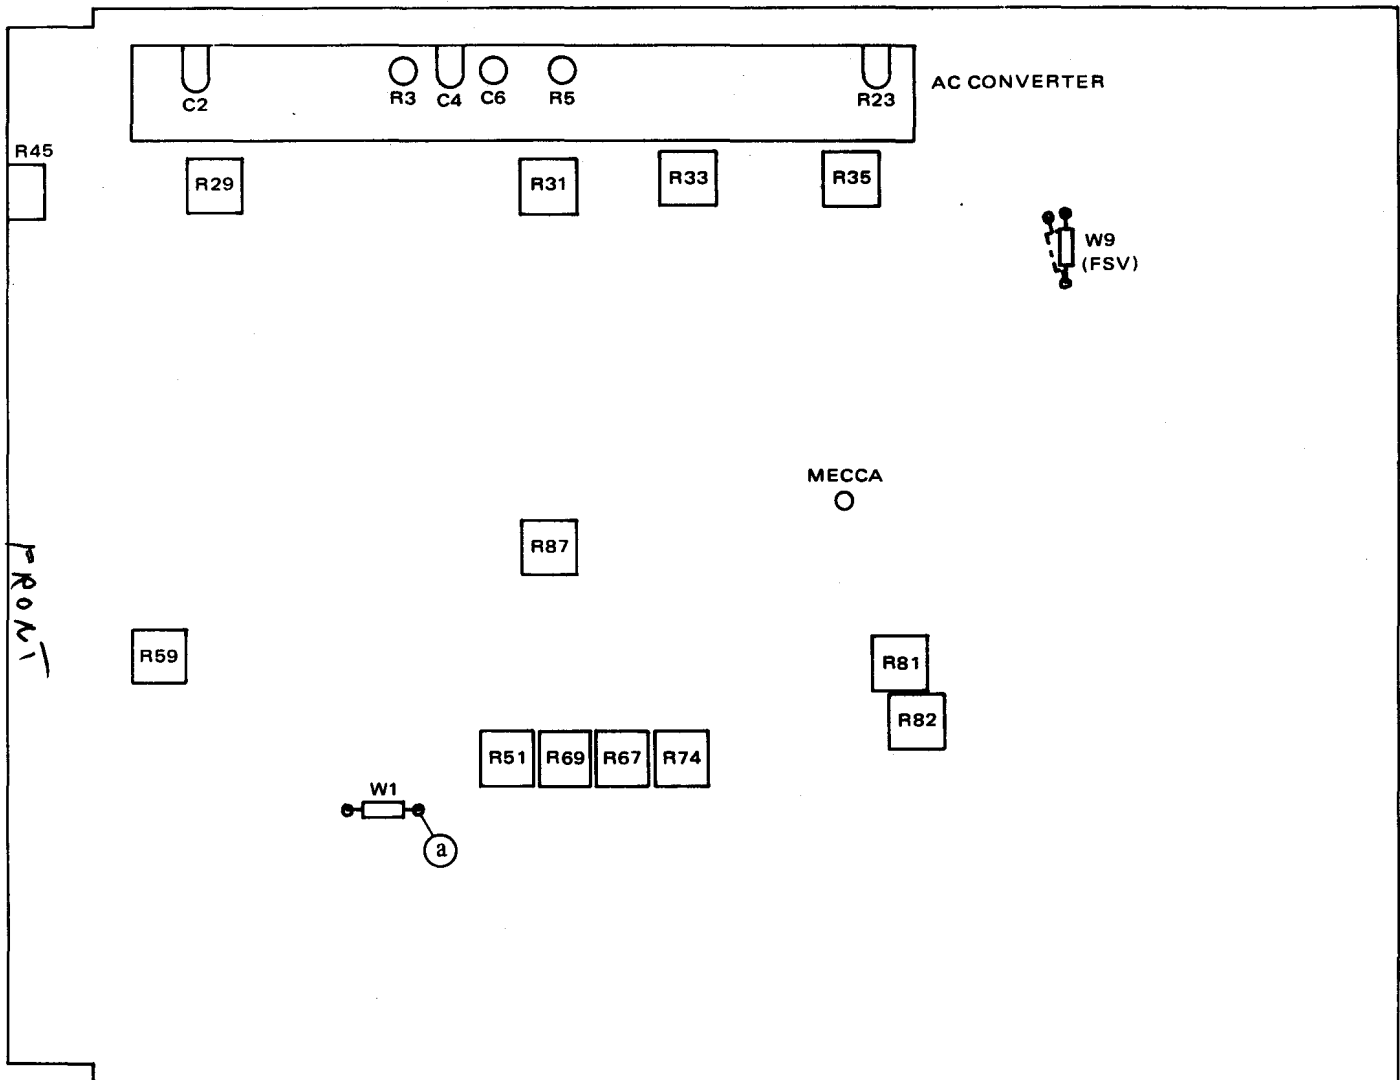

Figure 5.1 - Calibration Points
5.3.4 The locations of the calibration points as called for in the procedure are indicated in figure 5.1.